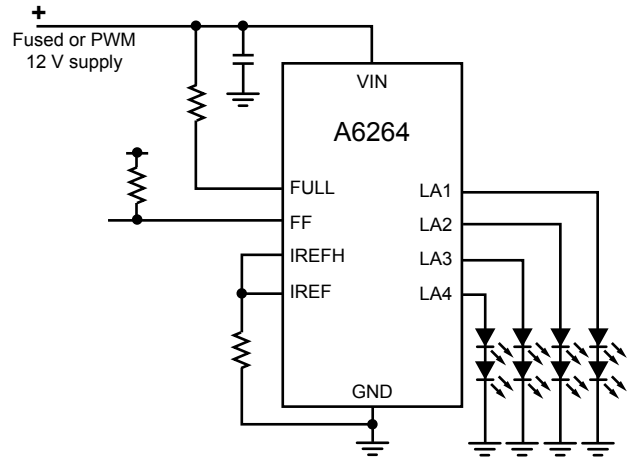

Figure 9. Incandescent lamp replacement.
- Figure 9 shows the A6264 driving LEDs in a low voltage incandescent lamp replacement. In such replacement applications the supply may be provided by a PWM-driven, high-side switch. The A6264 can be used in this application by applying the PWM supply directly to VIN. When power is applied there will be a short startup delay,  $t_{ON}$ , before the current starts to rise. The current rise time will be limited by the internal current slew rate control. In this example the A6264 is operating with FULL high and with a fault output.